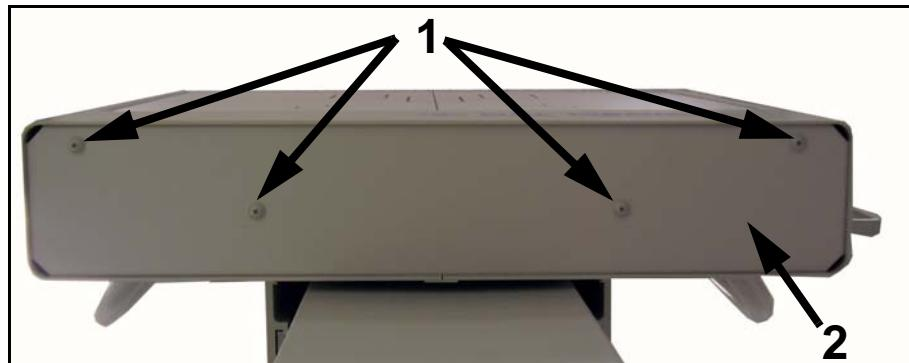

Figure 6-1. Bottom Cover Screws
- 1 Unscrew four bottom cover screws (1 in Figure 6-1) and remove bottom cover (2).